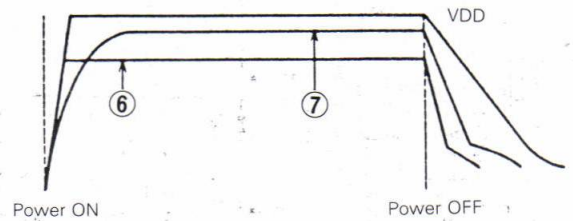

Figure 2
- (2) RES terminal
Figure 2 shows the voltage variation at pin ⑦ of QU01 which occurs when power is switched ON and OFF. All output terminals become "H" when this terminal becomes "L".
- (3) Figure 2 shows the voltage variation at pin ⑥ of QU01 which occurs when power is switched ON and OFF. Except when the mechanism is already in stop mode, it is stopped when this terminal becomes "L". When power supply is interrupted during mechanism operation, the output of Q801 which supplies voltage to pin ⑥ drops suddenly and the mechanism enters stop mode.